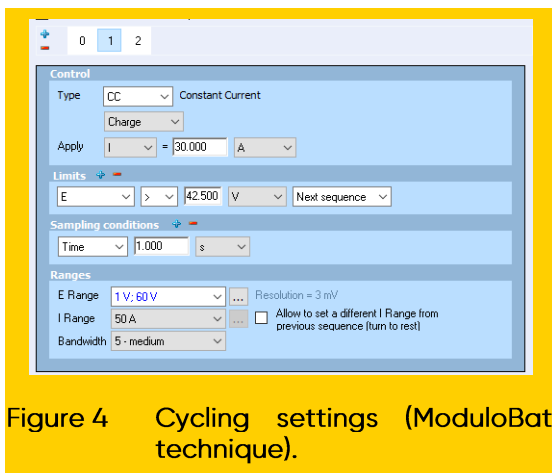
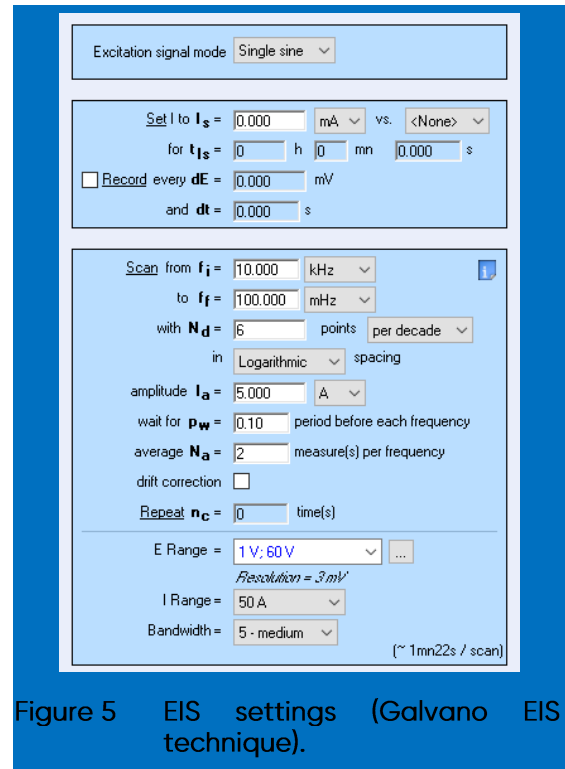

Figure 4 Cycling settings (ModuloBat technique).
Figure 5 EIS settings (Galvano EIS technique).
The cycling is performed at the maximal regime of the pack *i.e.* 30 A (pack specifications are given in II.3) with ModuloBat (MB) technique (Fig. 4) between 42.5V and 37.0 V. Each cycle is followed by one EIS measurement in galvanostatic mode (GEIS, Fig. 5) [5].